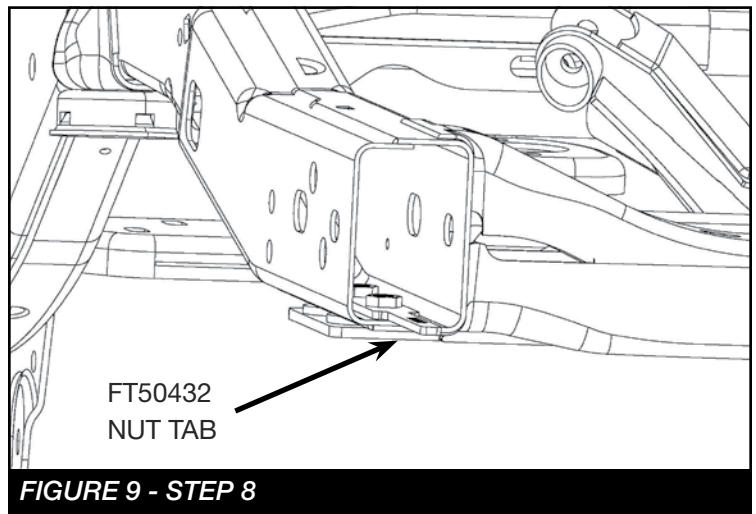
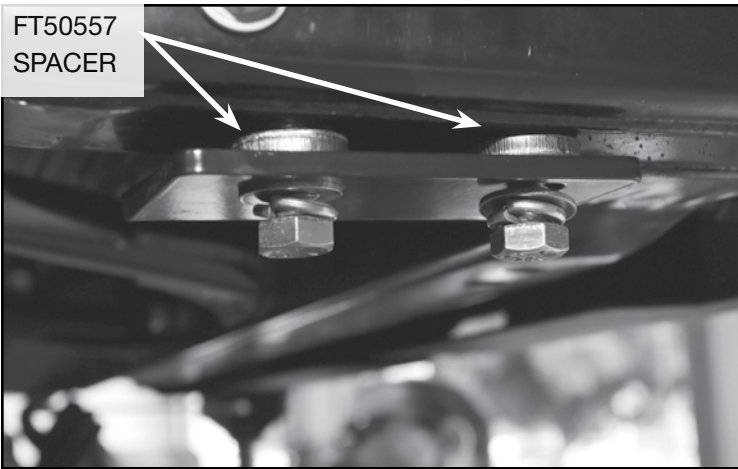

FIGURE 9 - STEP 8
FIGURE 10 - STEP 8
- Locate FT50432 (Dual nut tab), (**NOTE: For factory bumpers and aftermarket that do not include new frame rails use FT50557 Spacers**) and 1/2" X 1-3/4" bolts, lock and standard washers. Insert the nut tab through the rear opening of the frame to line up with the factory holes on the Drivers side. **SEE FIGURE 9.** Install the 7/16" hardware at the rear sides of the sub-frame using the FT50557 (Spacers) between the vehicle frame and Fabtech sub-frame. **SEE FIGURE 10.**
- Passenger Side: Using the sub-frame as a guide, drill the (2) 1/2" holes into the frame and repeat step 8 on the Passenger side.